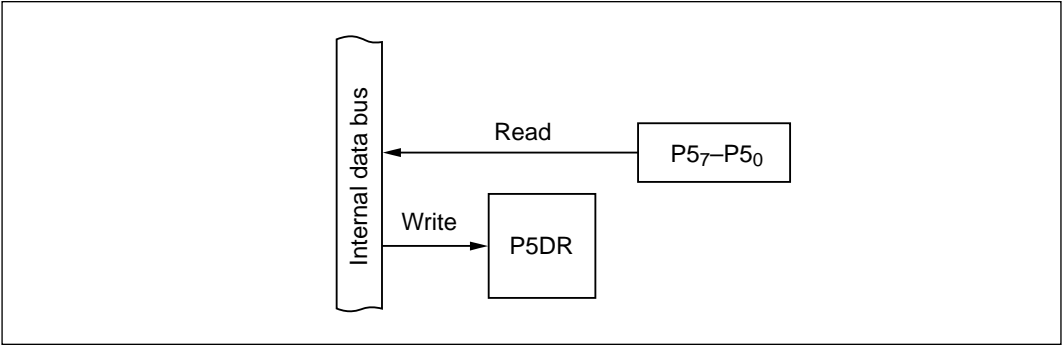

Figure 10-29 Input Port (Modes 1 to 7)
(1) Input Port (Modes 1 to 7): Figure 10-29 shows a block diagram illustrating the general-purpose input function. Table 10-22 indicates register read/write data. Values written in the port 5 data register (P5DR) have no effect on general-purpose input lines. When read, P5DR returns the value at the pin.